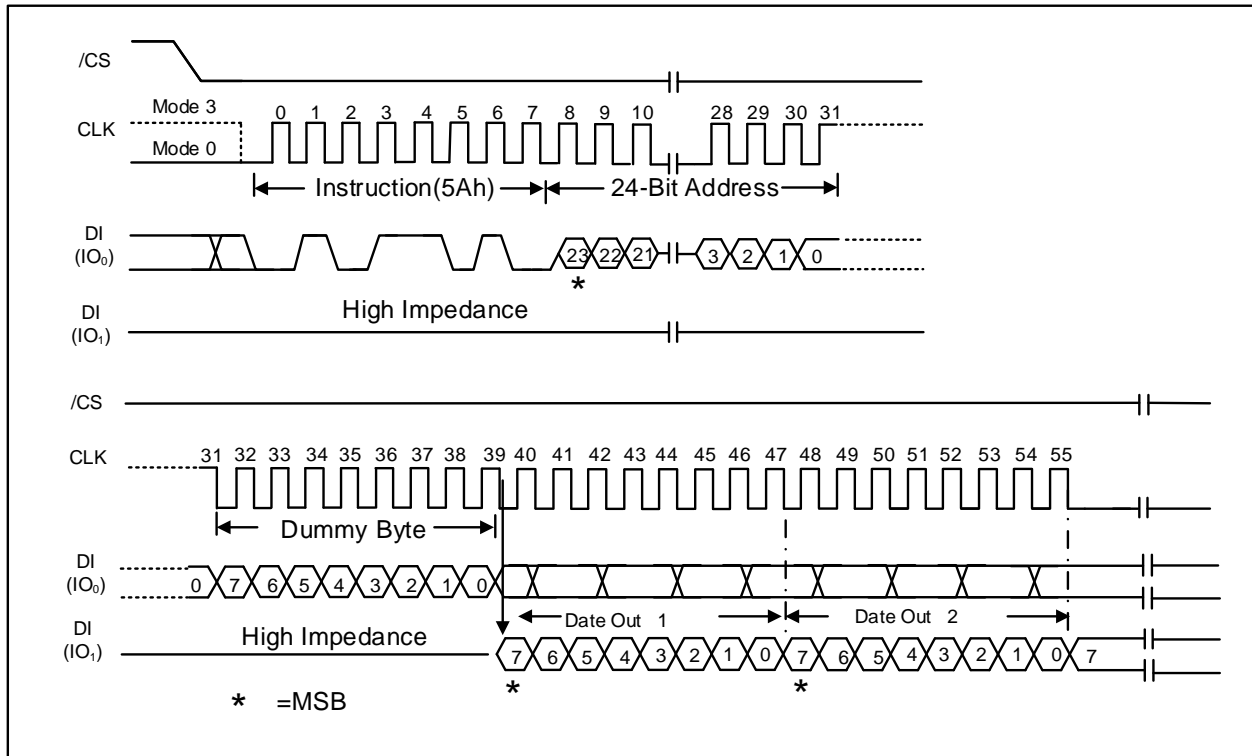

Figure 38. Read SFDP Register Instruction Sequence Diagram(Only SPI Mode)
The Read SFDP instruction is initiated by driving the /CS pin low and shifting the instruction code “5Ah” followed by a 24-bit address (A23-A0)(1) into the DI pin. Eight “dummy” clocks are also required before the SFDP register contents are shifted out on the falling edge of the 40th CLK with most significant bit (MSB) first as shown in Figure 38. The byte address is automatically incremented to the next byte address after each byte of data is shifted out. The last byte address of the register is FFh (the data will always be FFh when read after the last address), For SFDP register values and descriptions, please refer to the following SFDP Definition Table.